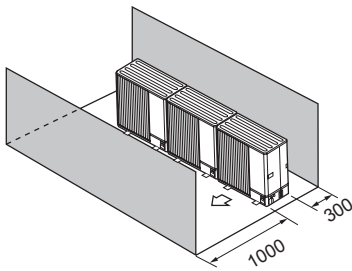

Fig. 2-33
- ④ Obstacles at front and rear only (Fig. 2-33)